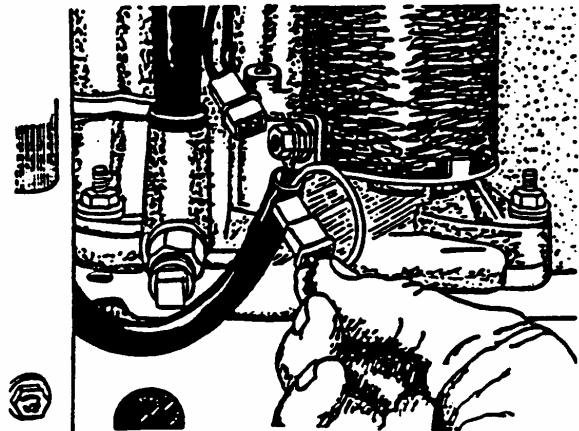

FIGURE 4
- A. Connect electrical circuit at rear of the engine. See Figure 4.